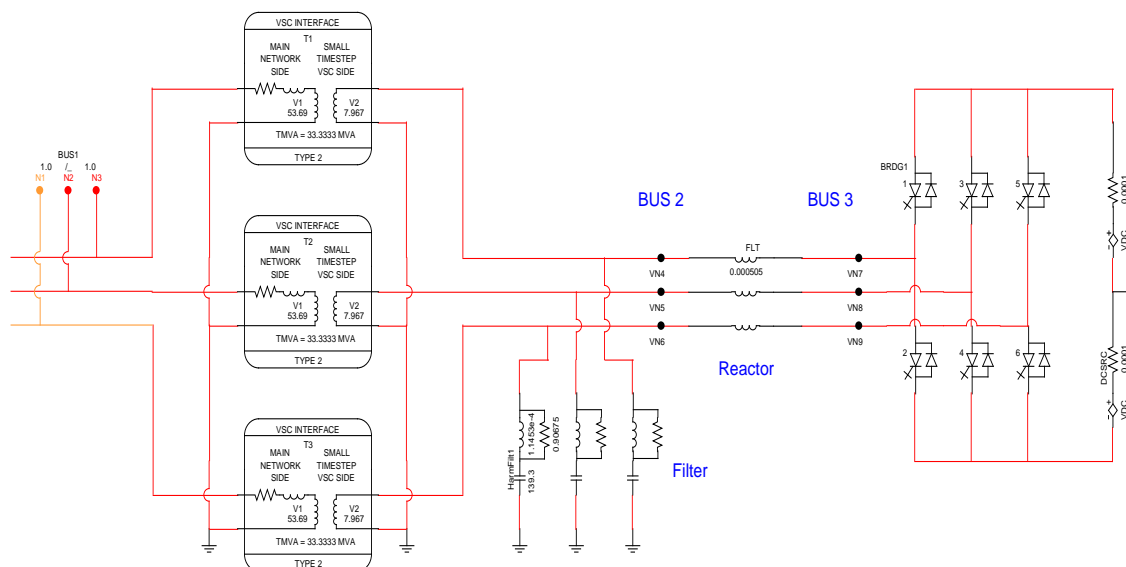

Figure 7
(1) **Save the existing case under another name so that we can retain the case where everything is simulated using a small time-step.** (2) Replace the small time-step transformers with three single phase interface transformers (*rtds_vsc_IFCTRF1*). Figure 7 illustrates how this can be done.